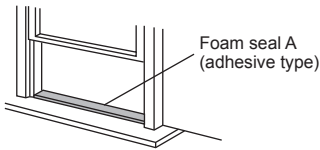

Fig. 10
1. Cut the foam seal (adhesive type) to the proper length and attach it to the window stool. Fig.10